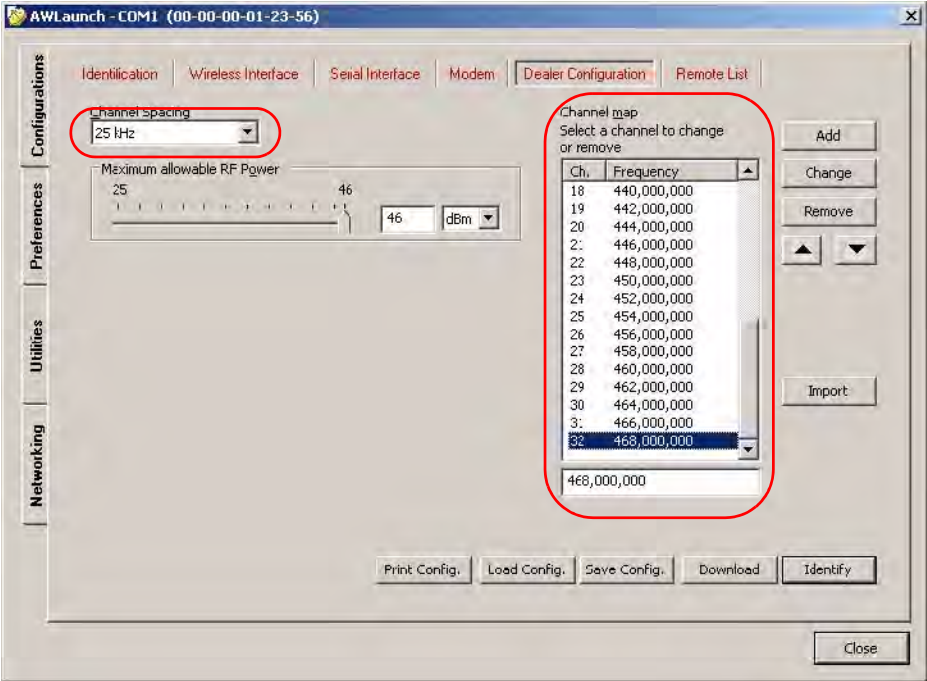

Figure 2-8. Dealer Configuration tab
2. In the *Dealer Configuration* subtab set the frequency and channel spacing (Figure 2-8 on page 25). To save the changes click *Save Config.* button.